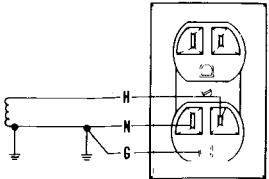

Figure 1
- A. 120 VAC, single phase grounded outlets (the most common). The instructions assume this type of wiring (Fig. 1).